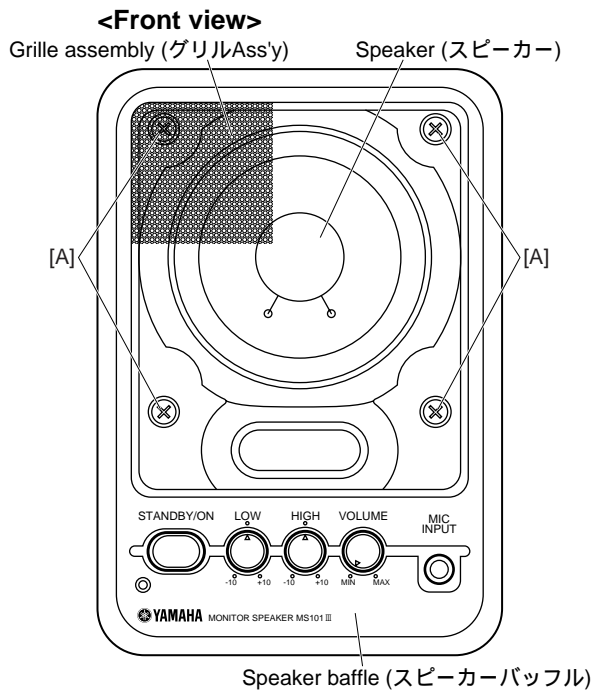

Fig.1(図1)
- 1-2 Remove the four (4) screws marked [A]. (Fig.1)
- 1-2 [A]のネジ4本を外します。(図1)